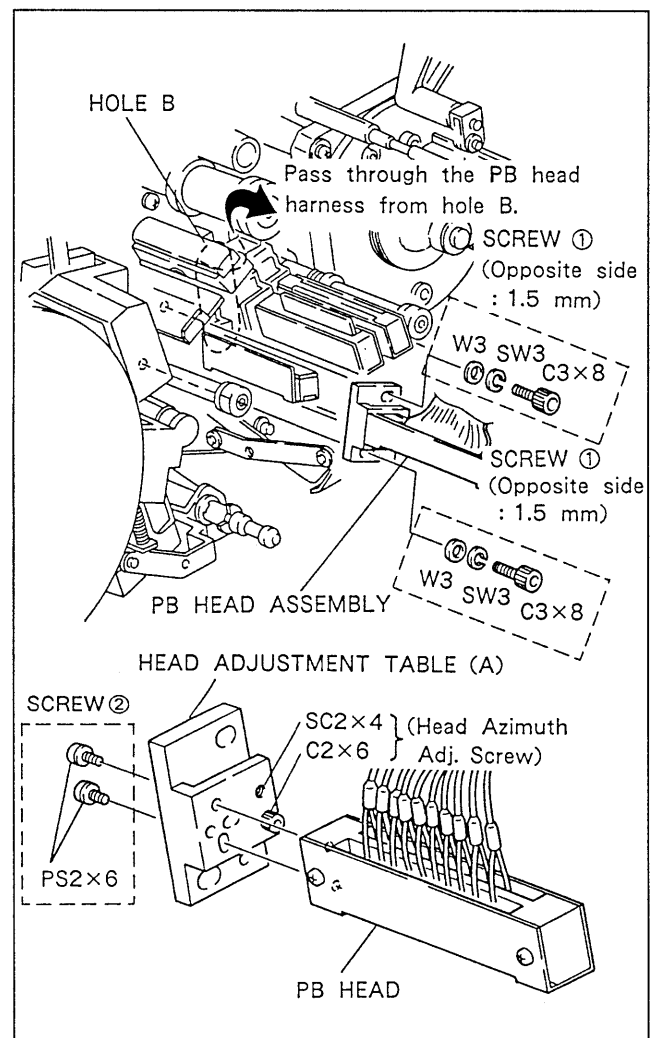
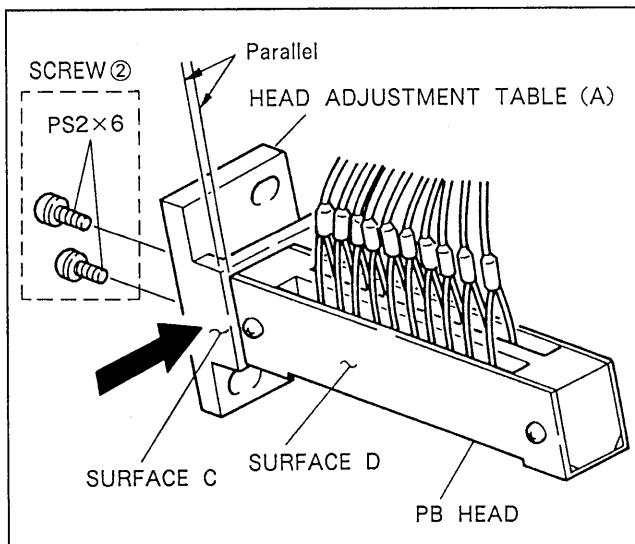

Fig. 6-14-2. PB Head Assembly Replacement
Fig. 6-14-4. PB Head Mounting Position Adjustment
3. Pull out the PB head harness from the hole B shown in Fig. 6-14-2.
4. Remove the PB head assembly by removing two screws ① (including spring washers and flat washers).
- Secure the PB head temporarily onto the head adjustment table (A) with two screws ② shown in Fig. 6-14-4 (Once tightening the two screws and then loosen for 1/4 to 1/2 rotation.).
- Push the PB head to the direction of arrow and tighten two screws ② where the edge surface D of the PB head becomes visually parallel with the edge surface C of head adjustment table (A).
- Pass the PB head harness through the hole B shown in Fig. 6-14-2.